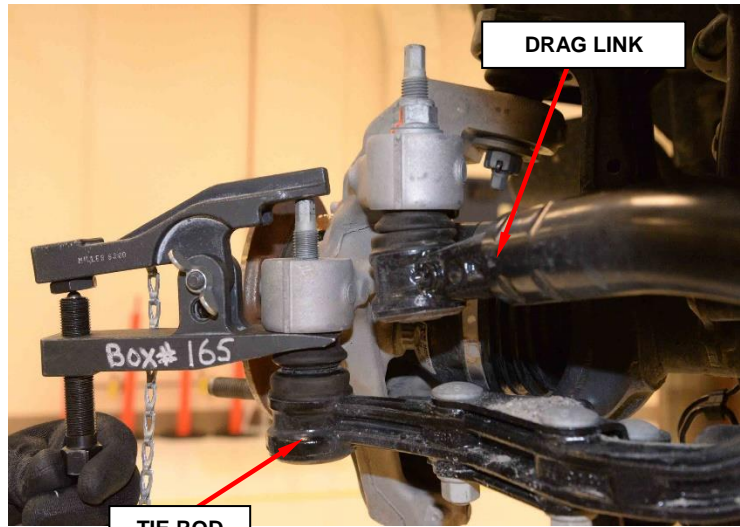

Figure 14 – Drag Link
18. Remove and **DISCARD** the right drag link outer nut (Figure 14).
19. Separate the drag link from the steering knuckle using special tool **9360 Separator** (Figure 14).
20. Remove and **DISCARD** the tie rod nuts (Figure 14).
21. Separate the tie rods from the steering knuckle using special tool **9360 Separator** (Figure 14).
17. Install drag link into the right steering knuckle (Figure 14).
18. Install a **NEW** drag link nut and tighten to 40N·m plus 125° (59ft. lbs. plus 125°) (Figure 14).
21. Insert the tie rod ends into the right and left steering knuckles (Figure 14).